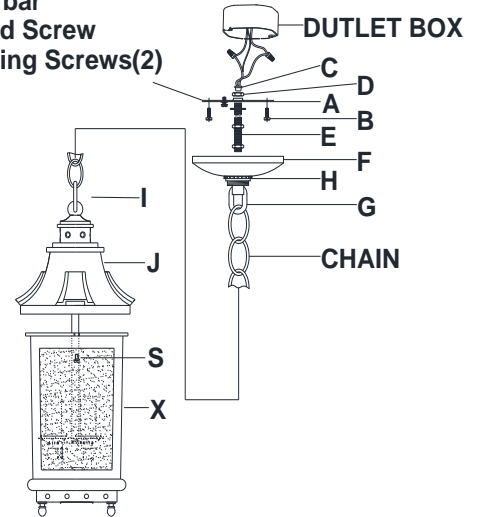

Fig. 2
## CONNECTING THE WIRES (Fig. 2)
6. Connect the electrical wires as shown in Fig.2. Making sure that all wire connectors are secured. If your outlet box has a ground wire (green or bare copper), connect the fixture's ground wire to it. Otherwise, connect the fixture's ground wire directly to the circular strap using the green screw provided.
7. Align canopy (F) to the ceiling and secure with lock collar (H) to chain loop (G).
8. Carefully remove screws (S) and separate fixture body (X) from top cover (J). Install the bulb (Type B, not supplied) in accordance with the fixture's specification. Attach fixture body (X) back to top cover (J) with screws (S).